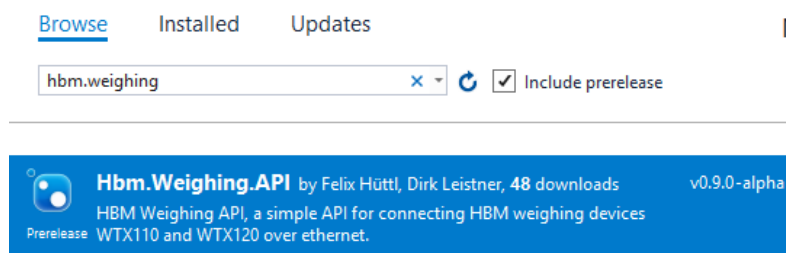

Figure 3.4: NuGet Package Manager
- Click on „Browse“ in the upper left corner of the appearing window and search for „HBM.Weighing.API“ like in Figure 3.4.